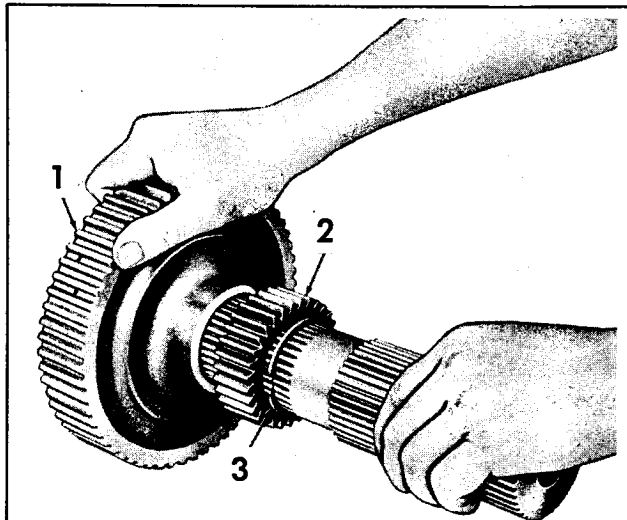

Fig. 79 — Disassemble Intermediate Range Clutch Hub and High Range Sun Gear
17. Remove the intermediate range clutch hub (Fig. 79) and the high range sun gear. Remove the snap ring from the transmission main shaft.